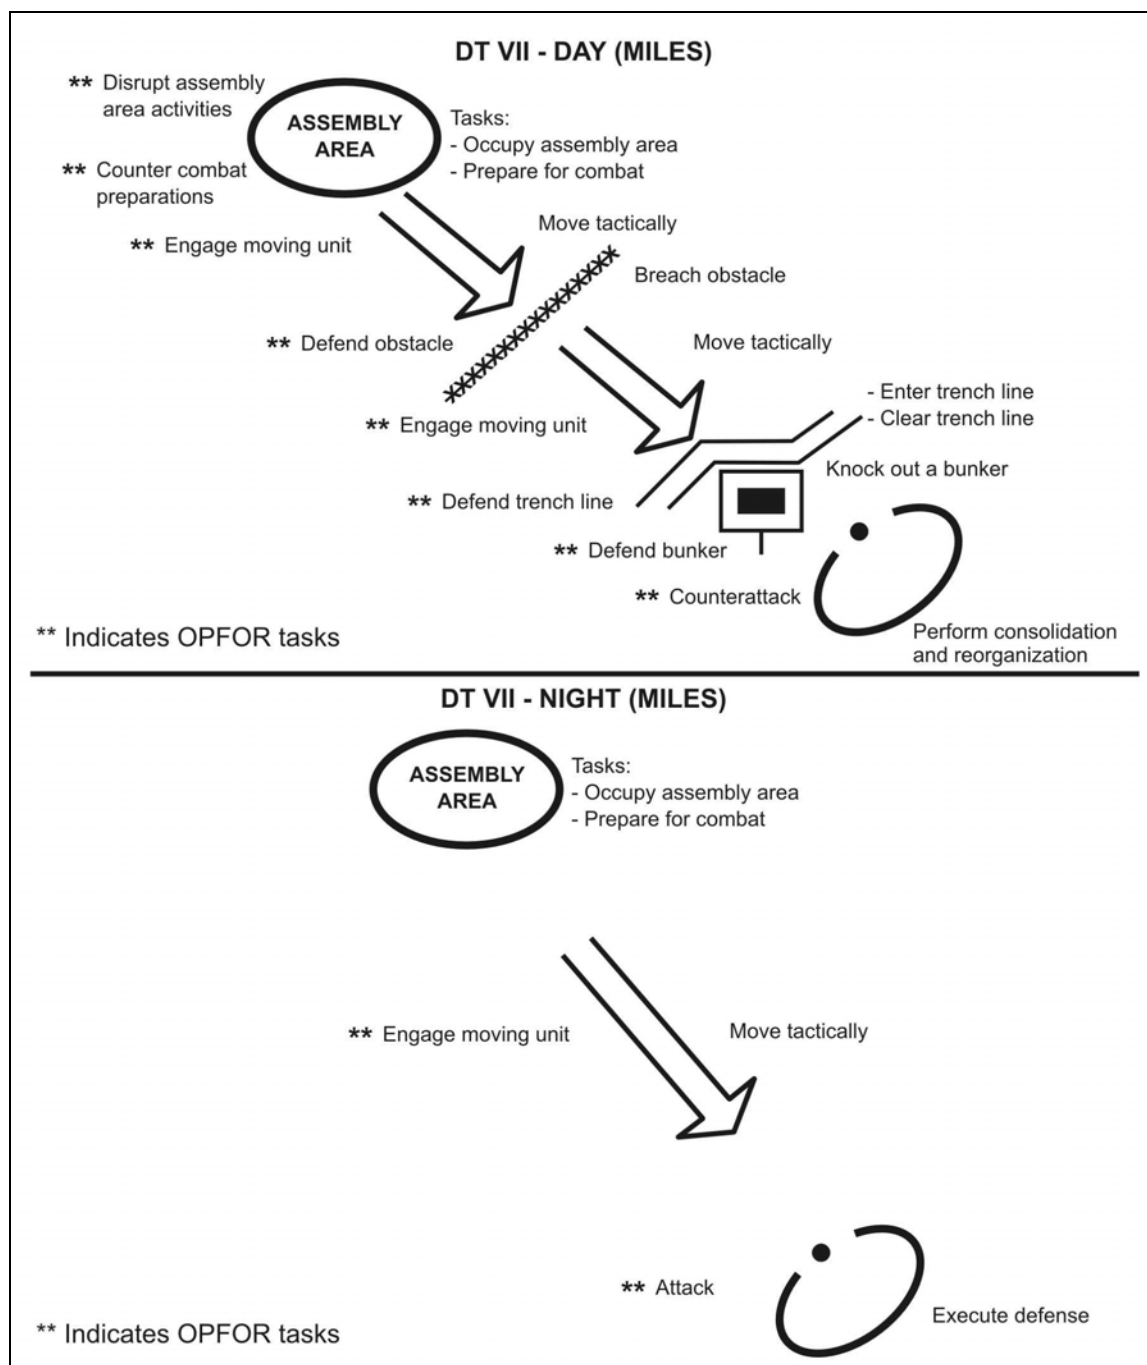

Figure F-18. Squad certification (Table VII).
b. **Table VII--Squad Certification.** DT VII evaluates the rifle infantry squad's conduct of tactical tasks, day and night (Figure F-18, page F-18).